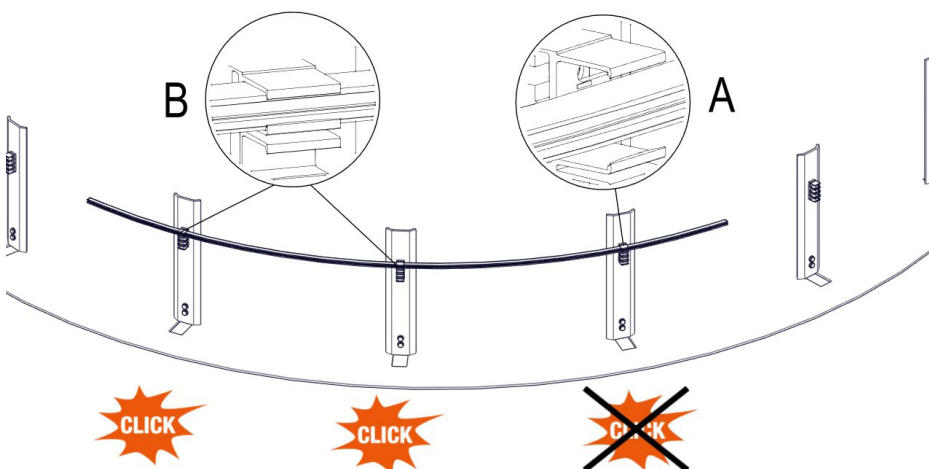

Fig. 58: Mount the first conductor rail bend
→ Mount the first conductor rail bend in the hanger clamp (B) up to, but not in the last hanger clamp (A). In order to connect the first conductor rail bend and the last conductor rail bend, it is important that the end of the first conductor rail bend is not yet mounted into the hanger clamp. In this way, the flexibility can be used at the last connection point (see Fig. 58).